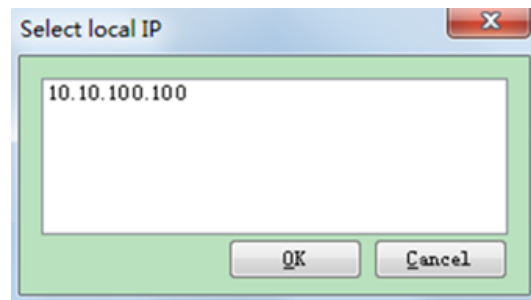

Figure 3.8: The dialog box is displayed. Confirm and click IP
(6) One dialog box is displayed to choose local IP after clicking ok button. Assure local IP address is 10.10.100.100, click the local IP address then click the ok button. As shown in figure3.8.